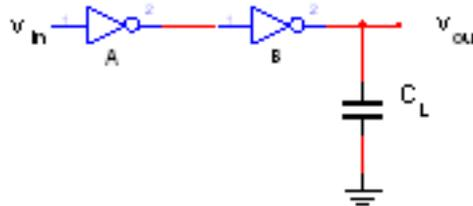

Figure 5
5. Two nMOS inverters are cascaded to drive a capacitive load $C_L = 16C_g$ as shown in Figure 5. Calculate the pair delay V_{in} to V_{out} in terms of τ for the given data.